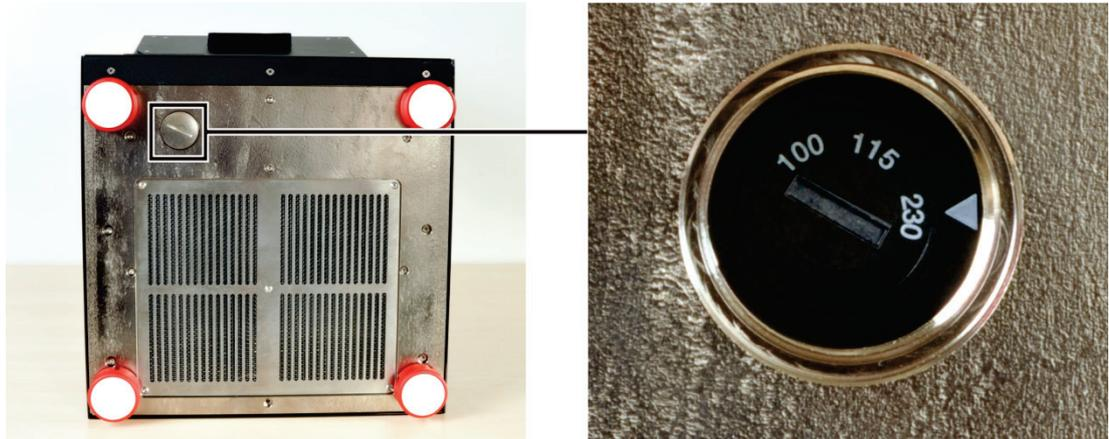

Fig. 8 Voltage selector switch on the bottom of the qTOWER³ touch
5. Use the voltage selection switch (Fig. 8 S. 21) to adjust the operating voltage to the mains voltage.